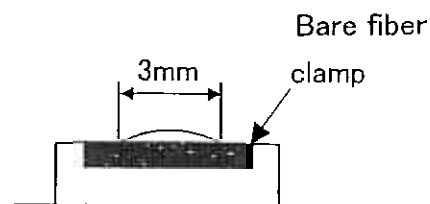

Fig.3
- Referring to Fig.3, turn the blade height adjustment screw so that the length of exposed blade edge along the bare fiber clamp is 4 to 5mm